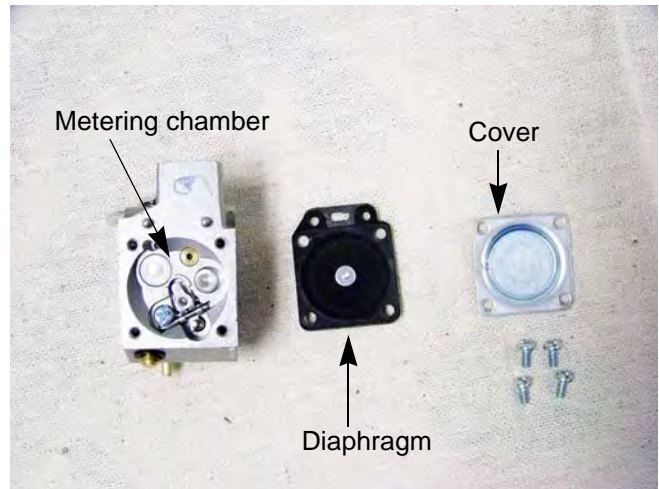

Figure 5.18
7. Inspect for dirt or varnish build up inside the carburetor. If there is a lot of dirt/varnish in the carburetor, replace it. See Figure 5.18.